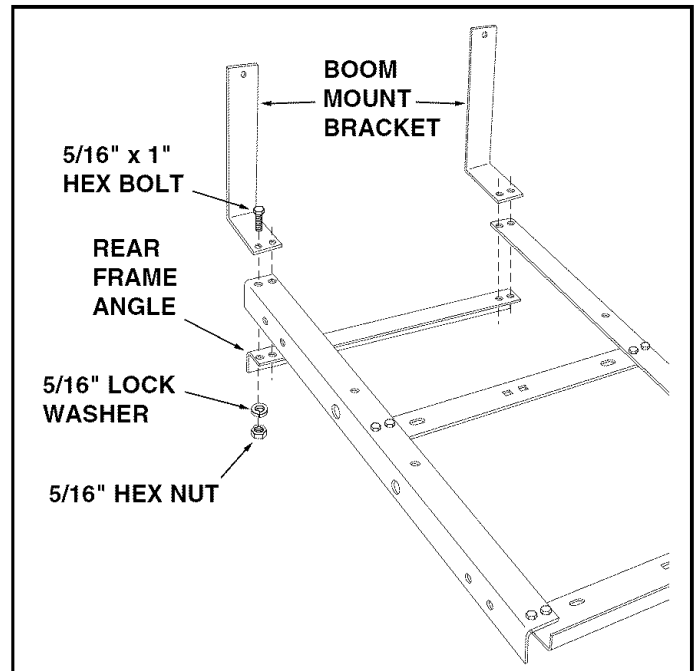

FIGURE 2
3. Assemble the rear frame angle to the bottom and the two boom mount brackets to the top of the side angles as shown in figure 2. Use four 5/16" x 1" hex bolts, 5/16" lock washers and 5/16" hex nuts. **Do not tighten yet.**